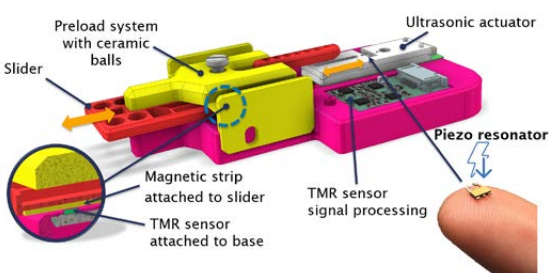

Fig 1. Demonstration module from Miniswys
**Position measurement** - Depending on the magnetic field strength, a TMR element changes its electrical resistance measurably. Moving a magnetic strip above two slightly shifted TMR elements (TMR sensor, see Fig. 1) results in two phase-shifted sinusoidal signals, allowing relative position calculation.